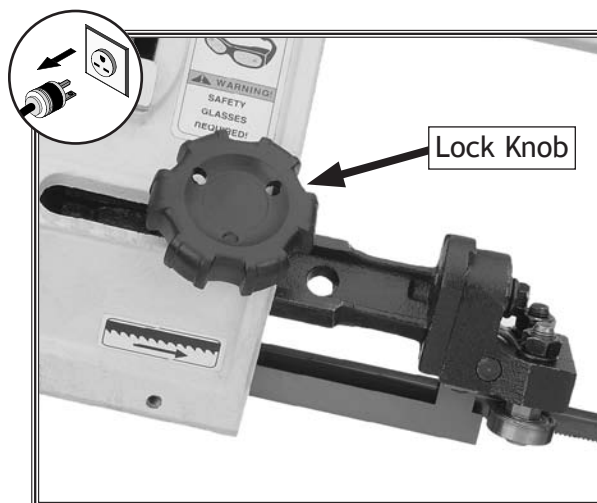

Figure 23. Blade guide position lock knob.
8. Tighten the jam nuts, loosen the lock knob, and slide the blade guide close to the workpiece so the blade is supported and will not twist during the cut (see Figure 23).